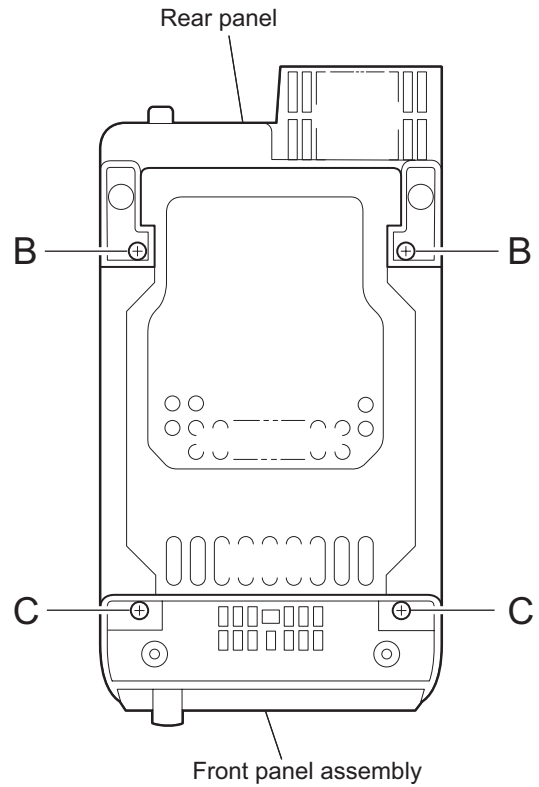

Fig.2
2.1.2 Removing the side panel (L) and (R) (See Fig.2~5)